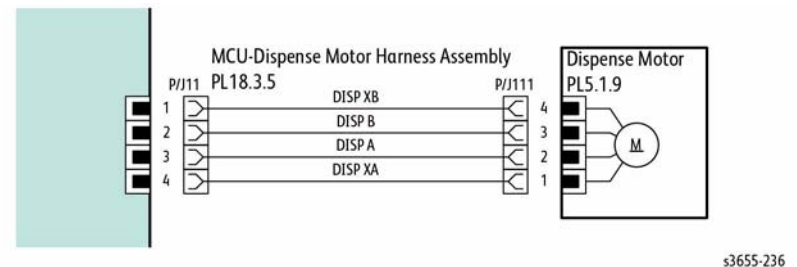

Figure 1 Example motor wiring diagram
1. Refer to Figure 1. Disconnect PJ111. Check the +24V supply and the phase pulses to GND when the component control code for the motor is entered. If the supply and pulses are present, install a new motor.